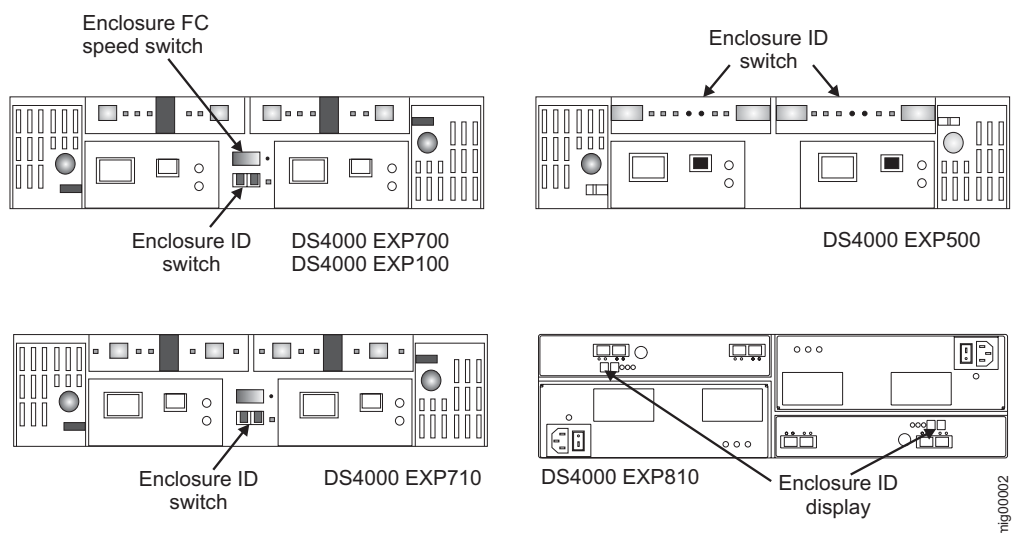

Figure 22. EXP100, EXP500, EXP700, EXP710, and EXP420/EXP810 enclosure ID and speed switches
In a EXP500 storage expansion enclosure, there is an enclosure ID switch mounted on each of two ESM canisters. Set each ESM canister's enclosure ID switch in the EXP500 drive enclosure to the same unique number of that in the drive loop. In EXP100, EXP700, and EXP710 storage expansion enclosures, there is only one enclosure ID switch, which is mounted between the power supplies. The EXP420/EXP810 does not have a physical switch setting for the enclosure ID; instead, it has a display that shows its enclosure ID. The controller firmware automatically sets the enclosure ID; however, you can change the enclosure ID by using the DS4000 Storage Manager Client program. For additional information, see the appropriate *DS4000 Installation, User's, and Maintenance Guide* for the particular storage expansion enclosure. Figure 22 illustrates the location of enclosure ID switches on the EXP100, EXP500, EXP700, EXP710, and EXP420/EXP810 storage enclosures.
- ___ Step 2. See Figure 22 on page 72 for an illustration of how to set the enclosure ID of the storage expansion enclosures. Each enclosure (including the DS4000 storage subsystem with internal drive slots) in the DS4000 Storage Subsystem configuration must have a unique enclosure ID. In addition, enclosures (including the DS4000 storage subsystem with internal drive slots) that are connected together in the same redundant drive loop/channel pair must have unique single enclosure ID digits (x1s). For example, 01, 02, 03, 04, or 11, 12, 13, 14, are the correct enclosure IDs of the enclosures, including the DS4000 subsystems with internal drives that are connected together in a drive loop/channel. Whereas 01, 11, 21, 31, or 11, 11, 22, 33, are not the correct enclosure IDs of the enclosures that are connected together in a drive loop/channel pair (including the DS4000 subsystems with internal drives) because the single digits within each enclosure ID are not unique (01, 11, 21, 31) or the enclosure ID itself is not unique (11, 11, 22, 33).